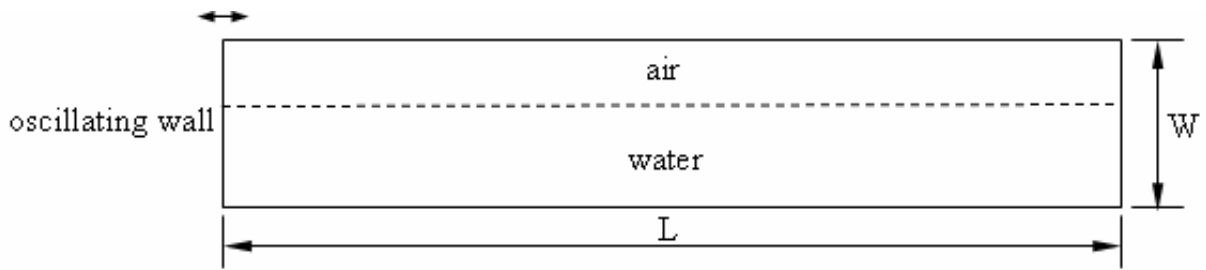

Figure 10.1: Problem Schematic
In this tutorial, we consider a rectangular tank with a length (L) of 15 m and width (W) of 0.8 m (Figure 10.1). The left wall is assigned a motion with sinusoidal time variation. The top wall is open to atmosphere and thus maintained at atmospheric pressure. The flow is assumed to be laminar.